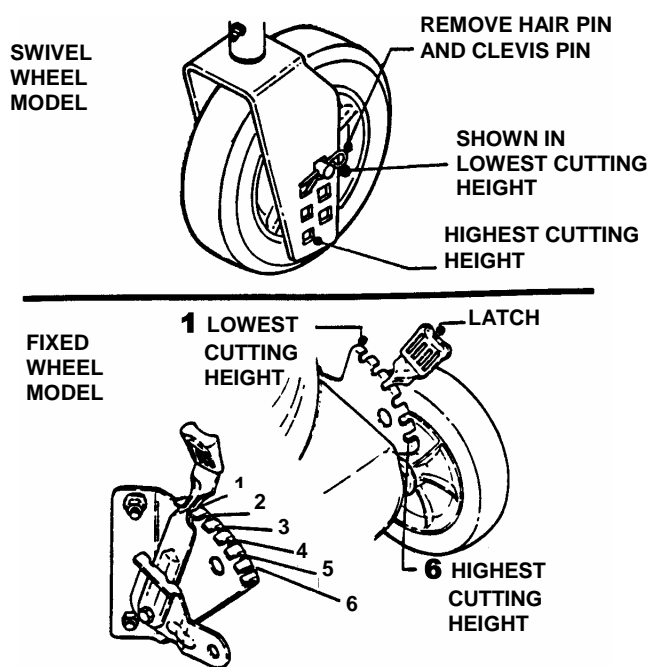

FIGURE 2.7
1. Pull the height adjusting latch outward and move to desired cutting height. See Figure 2.7.